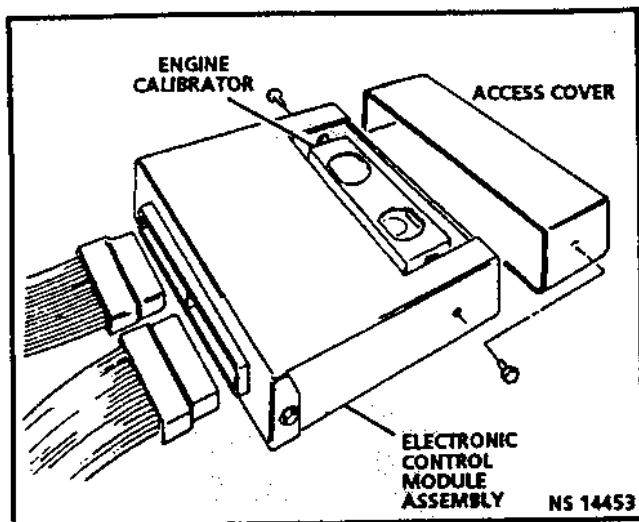

Figure 3.1-3 Electronic Control Module Engine Calibrator Access Cover
4. Engine calibrator access cover. (See Figure 3.1-3.)
**LOCATION:** Under access cover of electronic control module. (Figure 3.1-3).